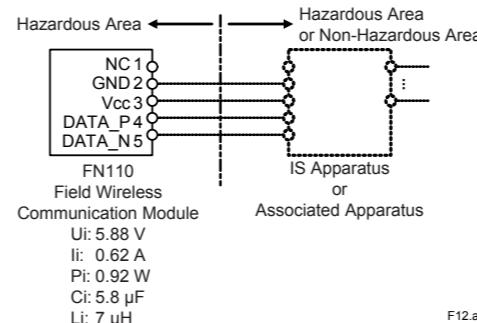

Figure 6.1 Control Drawing, IIE023-A71 for ATEX Certification
- Installation should be in accordance with local installation requirements. (Refer to "Figure 6.1 Control Drawing for ATEX Certification")